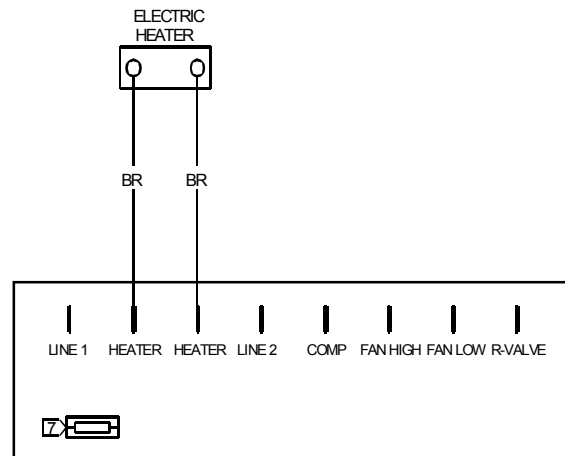

**Figure 8
- Place the blower inlet panel back into the chassis, threading the heater wires through the clip (Figure 7) and into the wiring access hole (Figure 8) located on the mid partition panel.